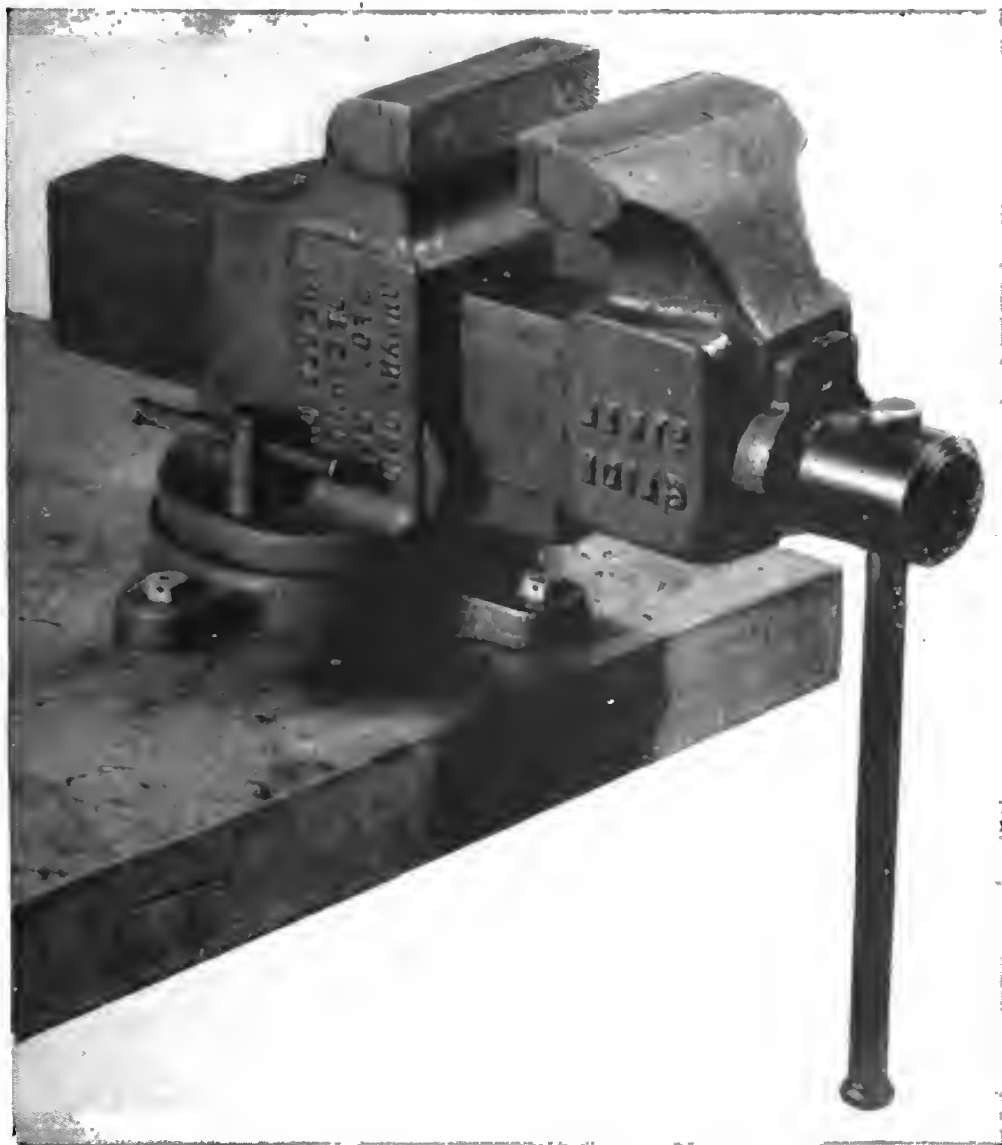

Figure 82. Bench vise.
b. BENCH VISE. (1) A bench vise is shown in figure 82. The upper part may be rotated on the base by loosening the lock screw on the side. The replaceable jaws are scored on the face to provide a better gripping surface. The screw provides a means of tightening the jaws. The vise is made of malleable and hard steel.
(2) When material is held in the vise, it should be held tightly enough that it cannot slip nor chatter. Thin material should be clamped so that the part being worked is as close to the edge of the vise as possible. This will help prevent chattering. When clamping finished surfaces, a piece of scrap copper, brass, or aluminum should be inserted between the work and each jaw of the vise. There is a greater danger of the work slipping when clamped in this manner, but the scored jaws would otherwise ruin the finished surface. In fact, most mechanics shape two scraps of brass, copper, or aluminum so that they will fit over the jaws of the vise and then save them to be used whenever holding finished surfaces. The amount of force used to tighten a vise depends upon what is being held. For heavy, rough stock, the vise may be tightened as much as the mechanic can turn it. It should be tightened by hand power alone, however. A hammer or mallet should never be used. Lighter material is more difficult to hold since there is danger of bending it. Tubular stock is